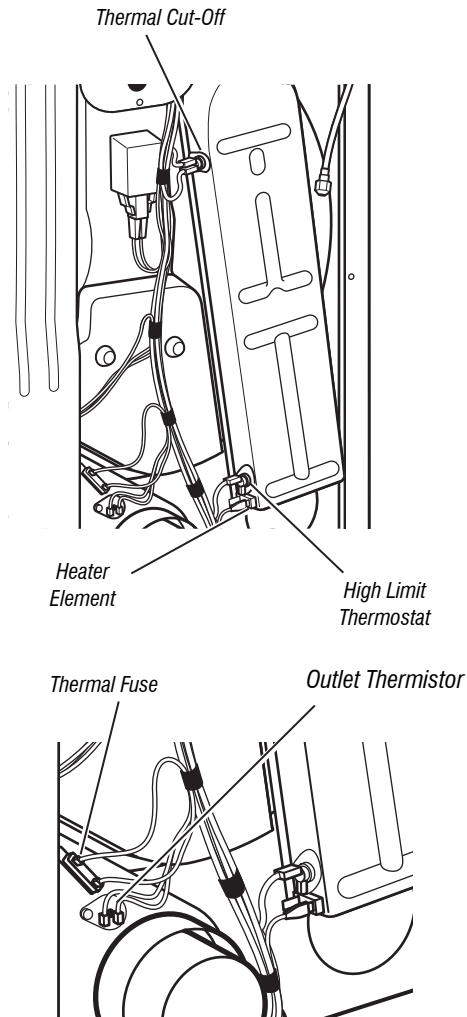

Figure 8 - Thermal components, electric dryer.
Locate the components using figures 8 and 9, page 21 and 22. To access heater system components, remove the back panel.
- If the ohmmeter indicates an open circuit, replace the thermal fuse. See Figures 8 and 9, pages 21 and 22 for location.
3. Using an ohmmeter, check the continuity across the thermal cut-off. See figures 8 and 9, pages 21 and 22 for location.